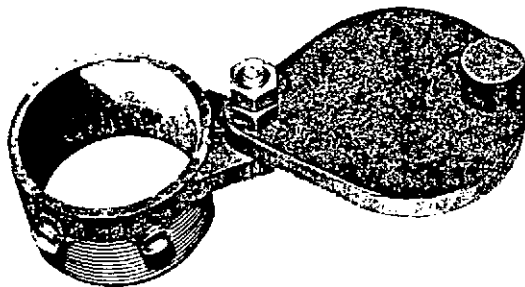
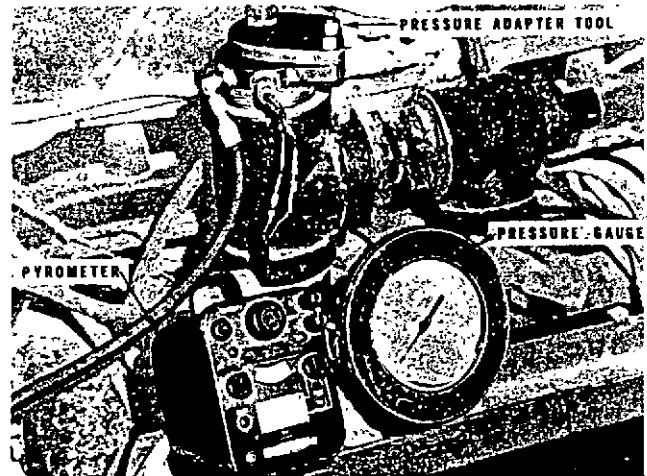

Fig. 2-14, N11835. Pressure adapter tool
Fig. 2-15, N11834. Pressure adapter tool (with gauges) mounted to vehicle
- a. Place Pressure Adapter Tool shown in Fig. 2-14 on discharge pipe and connect a pressure gauge and temperature thermocouple as shown in Fig. 2-15.
Note: The Pressure Adapter Tool is not available from Cummins at this time. It can be made from a three-inch pipe, two 1/8-inch pipe couplings and a flat, sliding adjustable cap. Fig. 2-14.